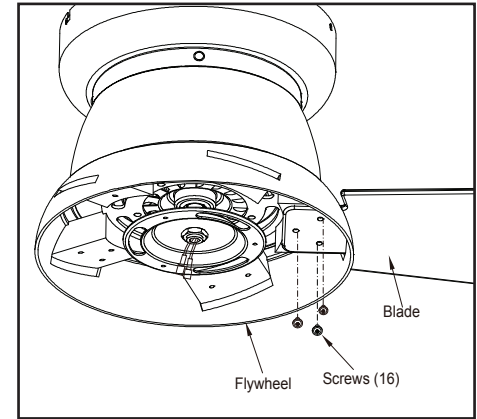

Figure 9
1. Insert the blade through the slot cut-off in the center flywheel, align the three screw holes in the blade with the screw holes in the flywheel and secure with the screws provided. (Figure 9)